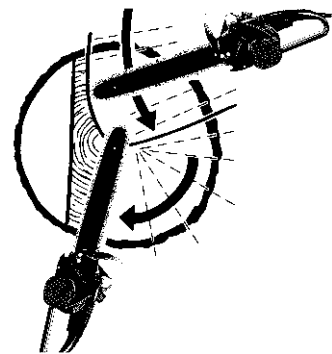

Fig.20
2. When diameter of wood being cut is greater than the bar length, make 2 cuts as shown (Figure 20).